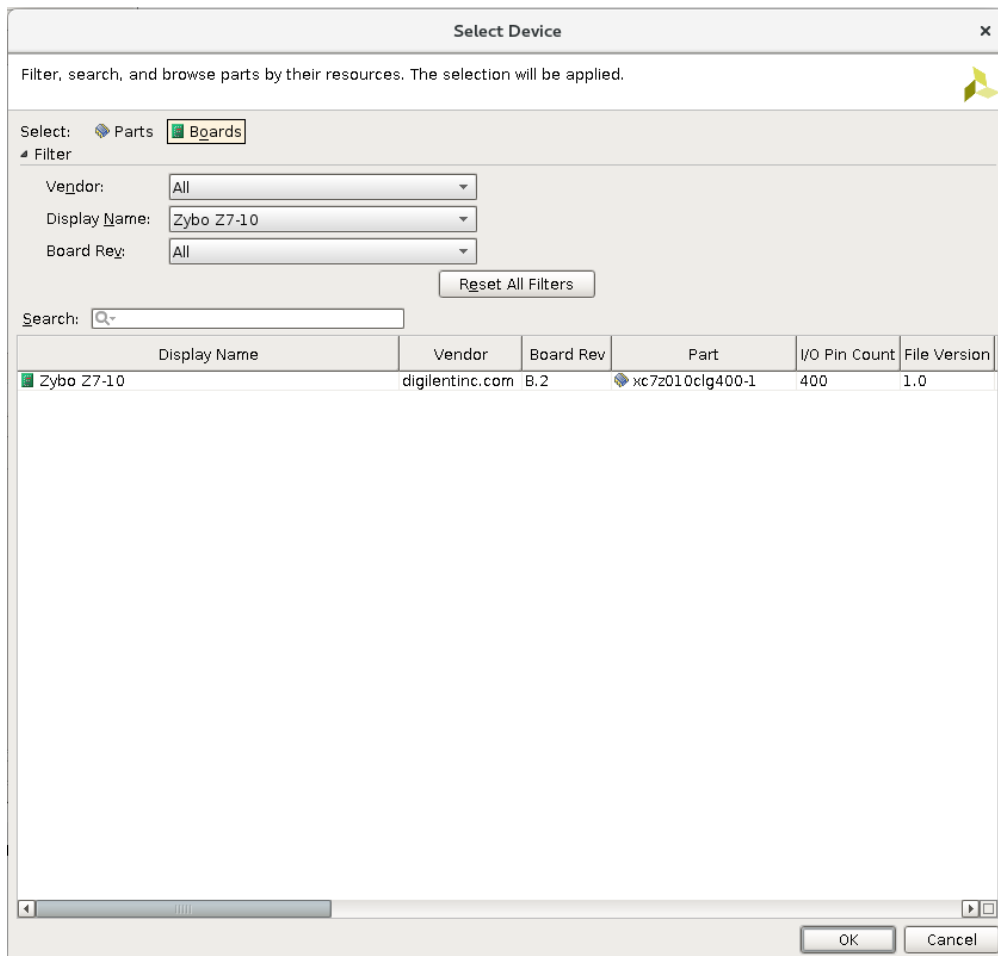

Figure 2: ZYBO Z7-10 Board
1. To begin, open Vivado and create a new project as shown in previous lab with one exception. In the Default part window, click on 'Boards' and select 'Zybo Z7-10' as shown in Figure 2. As discussed in Lab 1 we will select hardware using the 'Board' tab from now on.